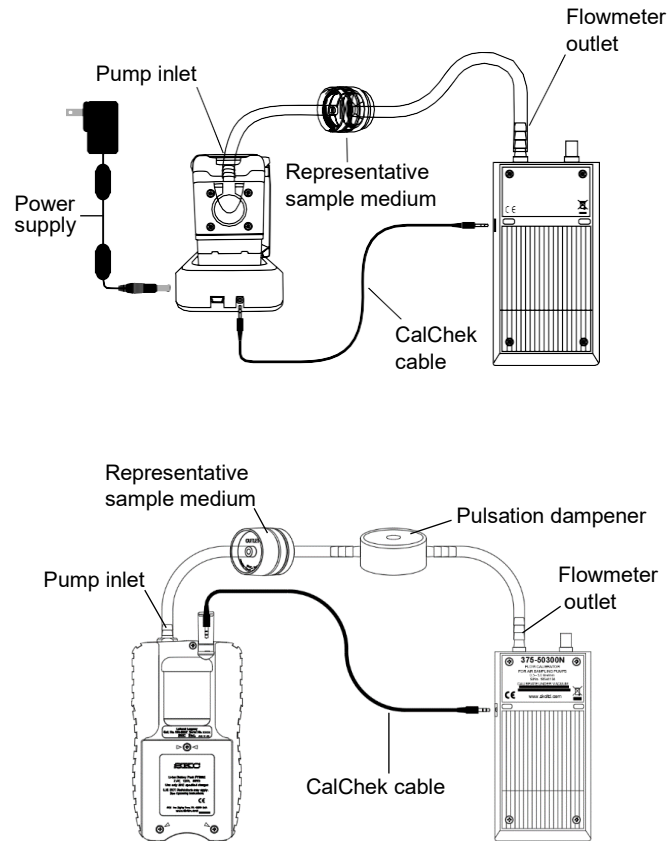

Figure 4. CalChek Single Flow Rate Verification Train (AirChek TOUCH and Leland Legacy Pumps)
4. Prepare appropriate CalChek train (see Figures 4 and 5). **Note:** Use 1/4-inch ID flexible tubing for AirChek TOUCH and 3/8-inch ID flexible tubing for Leland Legacy; use a calibration adapter if required.